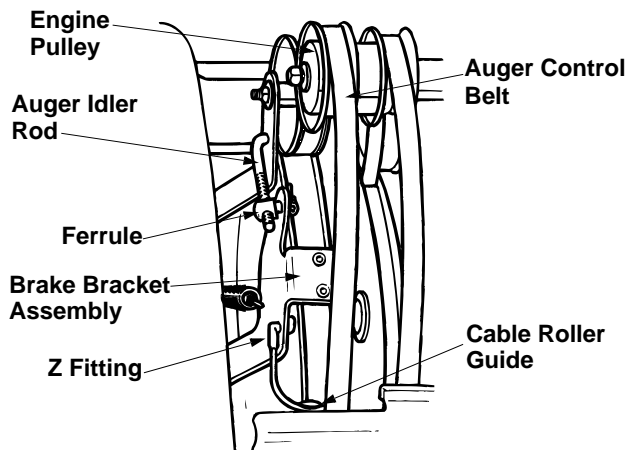

Figure 21
- Remove the hairpin clip and flat washer from the ferrule in order to disconnect the auger idler rod from the brake bracket assembly. See Figure 21.
- Slip the auger control belt (the front belt) off the engine pulley. See Figure 21.
- Attach the "Z" fitting of the cable into the brake bracket assembly. Refer to Figure 21.